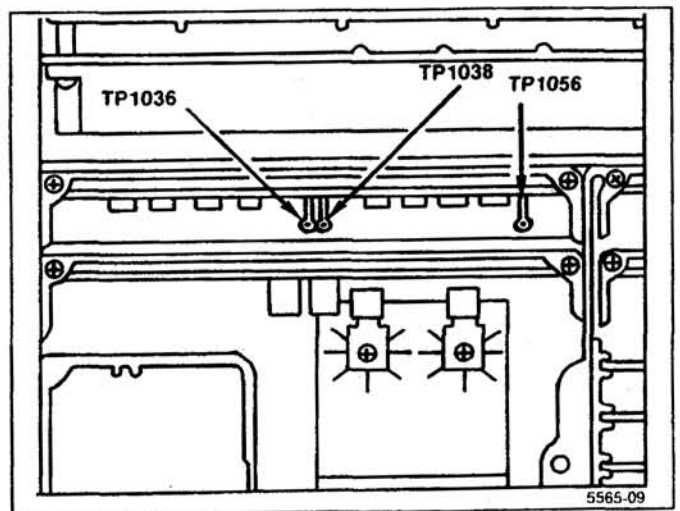

Figure 5-5. Test points on the CRT Readout board.
i. Disconnect the voltmeter, set TIME/DIV to AUTO, change the test oscilloscope to Ext Trigger, and apply the signal at TP1038 on the Crt Readout board (Figure 5-5) to the test oscilloscope Ext Trigger input. Set the test oscilloscope Time/Div to 2 μ s.